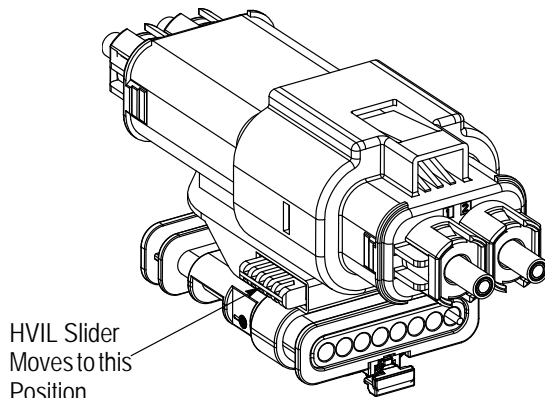

Figure 28
4. The HVIL post on the AMP+ HVA400 plug connector should engage and change the position of the HVIL slider as shown in Figure 28. If the connector halves do not fit together easily, check the following: